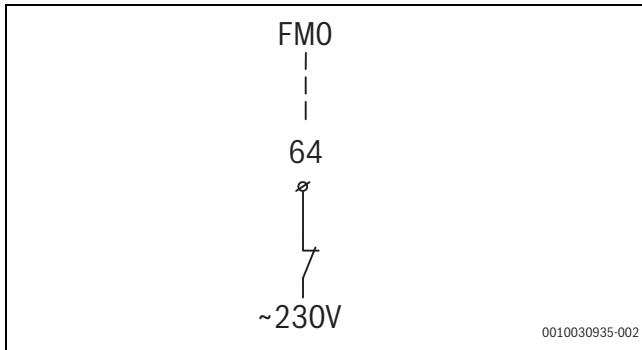

Fig. 30 Connection for external booster heater with 230 V alarm output
- ▶ Connect 230 V alarm signal (AC) as shown in figure 30 to the installer module at terminal **FMO** (→ Chapter 12.2, page 36 [26]).